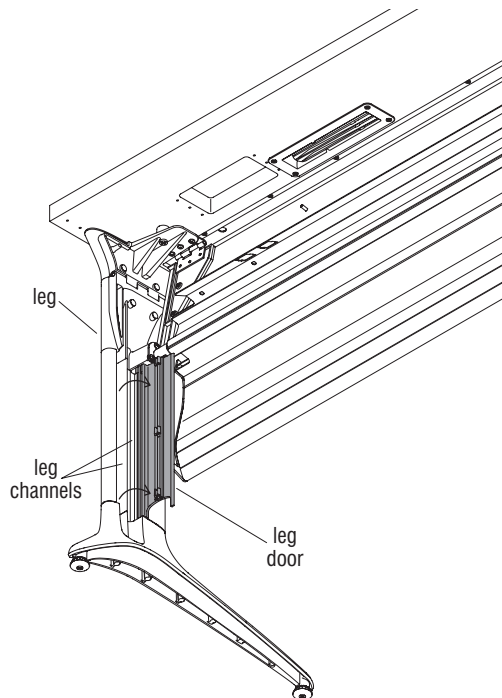

Figure 2
2. Open the leg door exposing the two channels in the leg (Figure 2). The leg channel that is closest to the front of the leg is the electrical raceway.